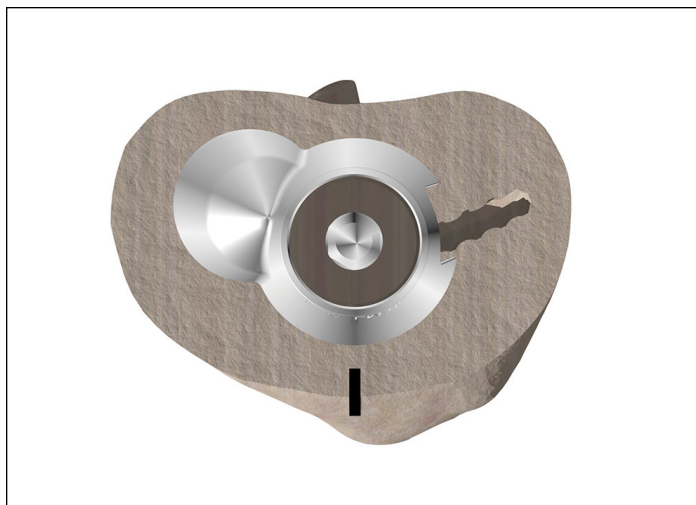

Figure 42
- ▶ **Note:** Invert the Cone Trial over the resected tibial bone and ensure that the trial is centered on the IM Reamer (**Figure 42**). Centering the trial helps to ensure proper positioning.